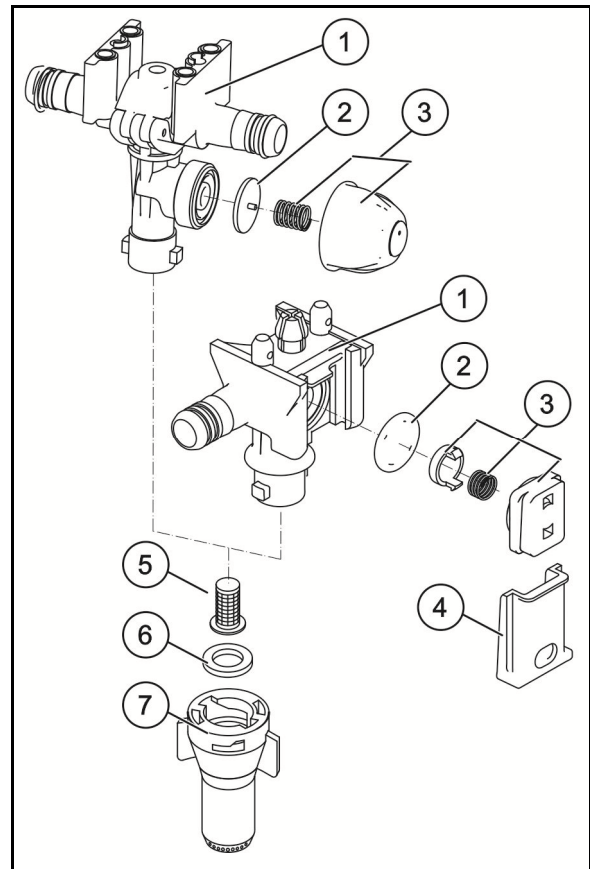

Fig. 84
Ultrasound sensors (Fig. 84/1) detect the distance to the ground or the crop. If the height deviates from the desired measurement on one side, the DistanceControl regulates the tilt adjustment in order to adjust the height. If the terrain rises on both sides, the height adjustment raises the entire boom.
- see Fig. 84.